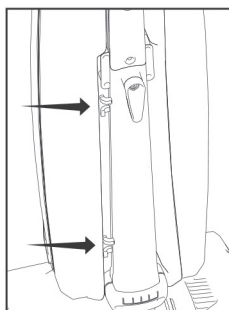

Fig. 1
1. Thread the cord through the lower and upper cord guides on the back of the vacuum bag (Fig. 1).